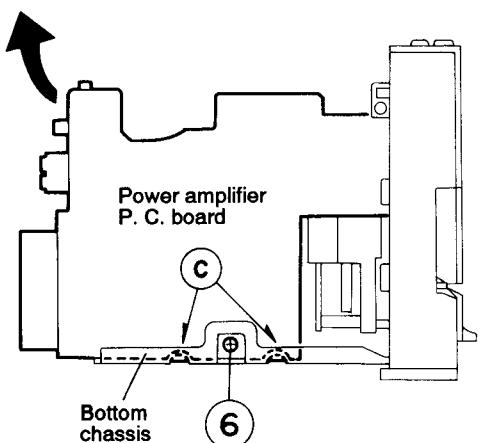

Fig. 5-10
7. Remove the one screw ⑥ retaining the power amplifier P. C. board (See Fig. 5-10).
9. After removing the power amplifier P. C. board from the key way ⑦ on the bottom chassis, take this P. C. board out while raising it in the arrow direction (See Fig. 5-10).